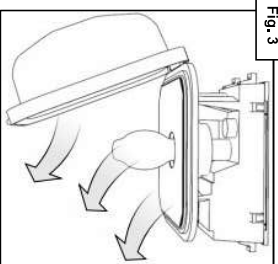

Fig. 3
8. From below the canopy, pull on lens-frame to swing lens downward (Fig. 3). Remove lamp and socket.